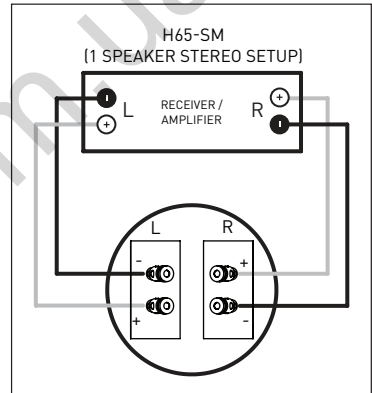

Fig. 5c
**One Speaker** (Fig. 5c): Connect one speaker channel at a time to your receiver/amplifier. Connect the Right red (+) amplifier terminal to the Right red (+) speaker terminal and the Right black (-) amplifier terminal to the Right black (-) speaker terminal. Connect the Left red (+) amplifier terminal to the Left red (+) speaker terminal and the Left black (-) amplifier terminal to the Left black (-) speaker terminal.